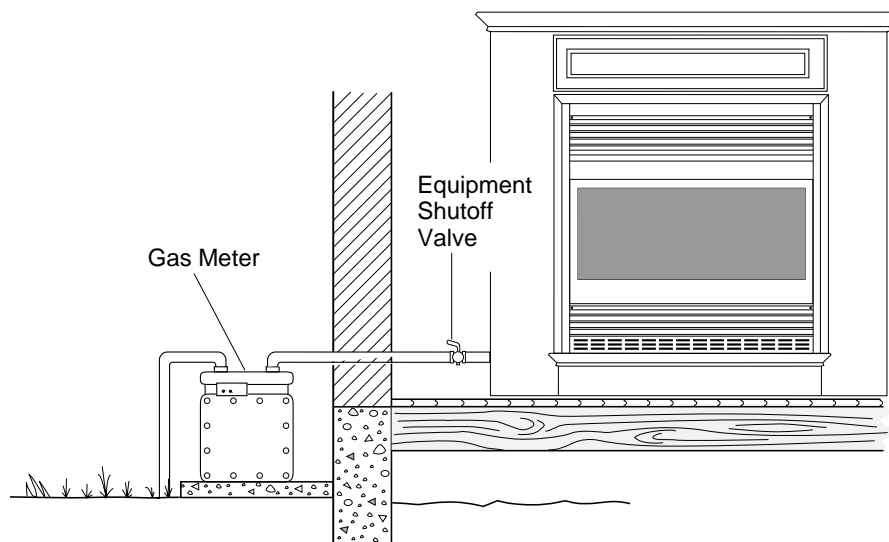

Figure 27 - Checking Gas Joints
3. Check all joints from gas meter to equipment shutoff valve (see Figure 27). Apply a noncorrosive leak detection fluid to gas joints. Bubbles forming show a leak.
4. Check all joints from equipment shutoff valve to thermostat gas valve (see Figure 27). Apply a noncorrosive leak detection fluid to gas joints. Bubbles forming show a leak.